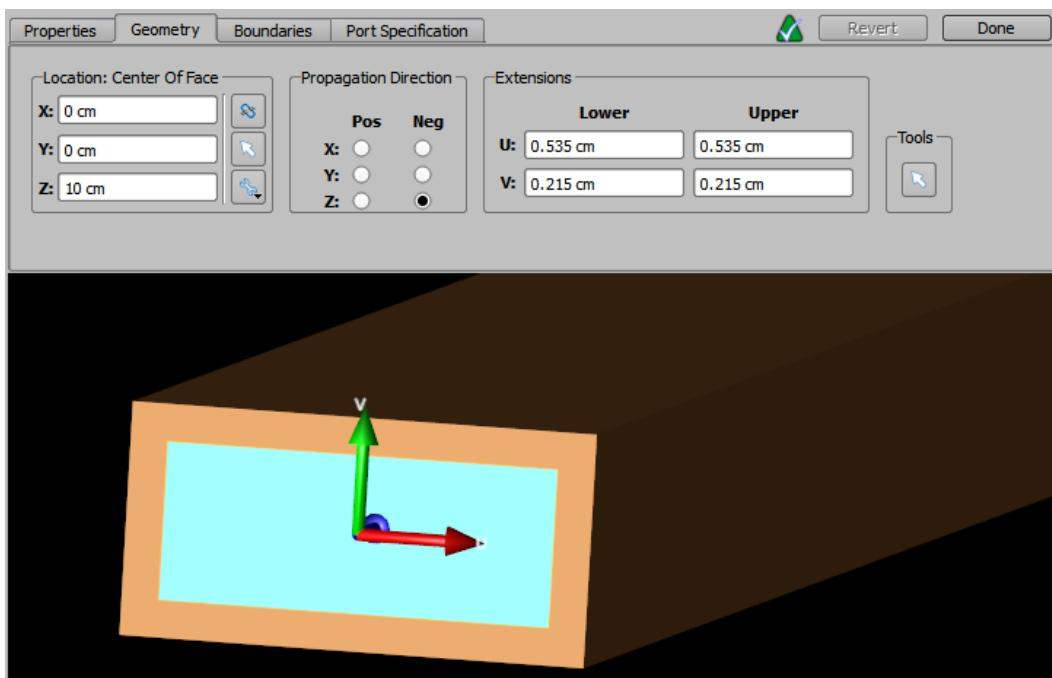

Figure 5.22: Waveguide Receiver Interface Geometry Tab
- Update the EXTENSIONS as shown in Figure 5.22.